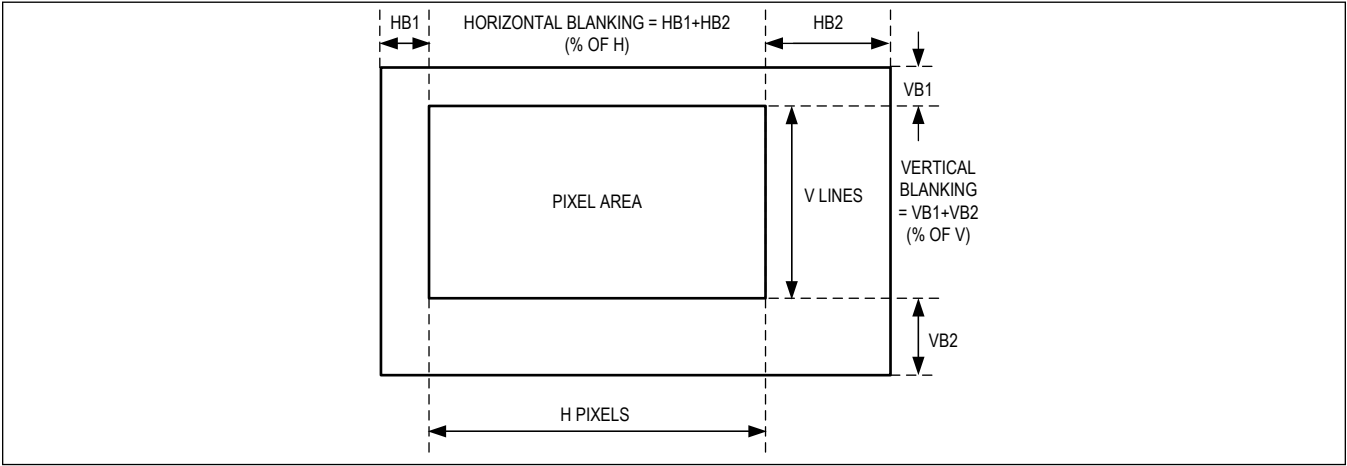

Figure 26. Video Frame Format for Bandwidth Calculation
Ensure the worst use cases do not exceed the available throughput of the forward and reverse links. Analog Devices' evaluation kit (EVK) GUI includes a bandwidth (BW) calculator for initial bandwidth requirements estimates. Analog Devices also has other tools to calculate link bandwidth utilization. Consult the factory for high-bandwidth use cases for error-free performance. See Figure 26 for definitions of terms.